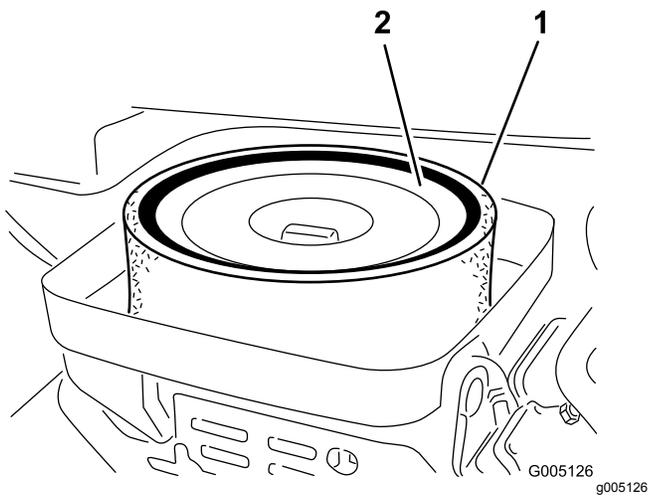

**Figure 30**
1. Clean the air-cleaner cover (Figure 30).